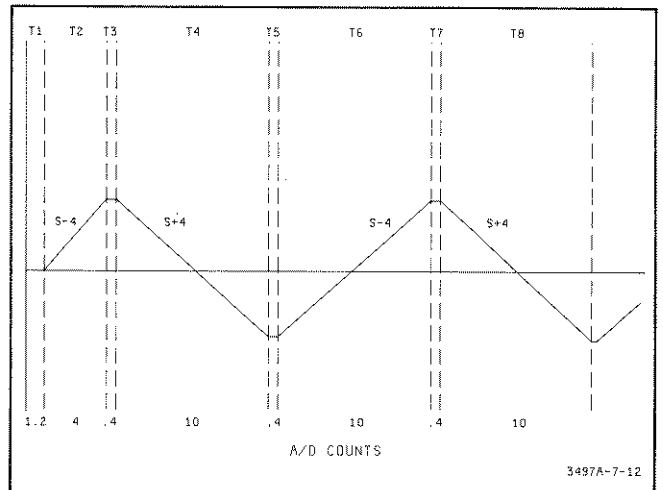

Figure 7-12. Runup Slopes For Zero Inputs (4½ Digit Mode)
k. Once the runup operation is completed, the inguard processor then determines the most significant digit of the reading. The counter in the inguard processor increments for each positive going slope and decrements for each negative going slope. The only exception is the first $S - 4$ or $S + 4$ slope; it is ignored when doing the calculations. Using the information in the counter, the digits are developed. For other than a zero reading, the number of $S + 4$ slopes will always be different than the number of $S - 4$ slopes. For a perfect zero reading, the number of $S - 4$ slopes will be the same as the number of $S + 4$ slopes (with the first $S - 4$ or $S + 4$ slope ignored). This is represented in Figure 7-12.